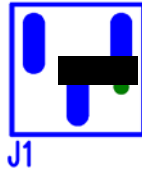

Figure 3: J1 controls EN_PB input.
STEP 2: Set the EN_PB jumper J1 to the desired position. See Figure 3. Pulling it low disables the pre-bias mode operation. Pulling this jumper high or letting it float will allow monotonic start-up with a pre-biased output. In pre-bias mode, V_{OUT} will not discharge very quickly. Therefore, you may need to apply a small load (~10mA) at shut-down to ensure that
the output voltage discharges. In Figure 3 the jumper is set low to disable pre-bias mode.